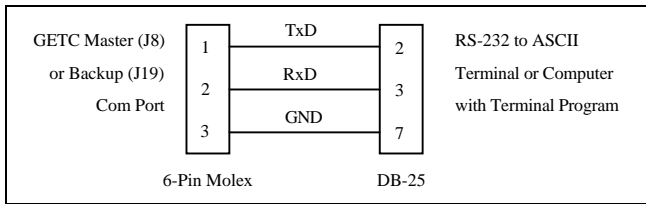

Figure 15 - Terminal-to-GETC Connection Cable
Fabricate a cable with a 25-pin DB-25(M) connector (similar to AMP # 205207) on one end and a 6-pin connector (similar to Molex 22-01-2065-P(F)) on the other end as shown in Figure 15.